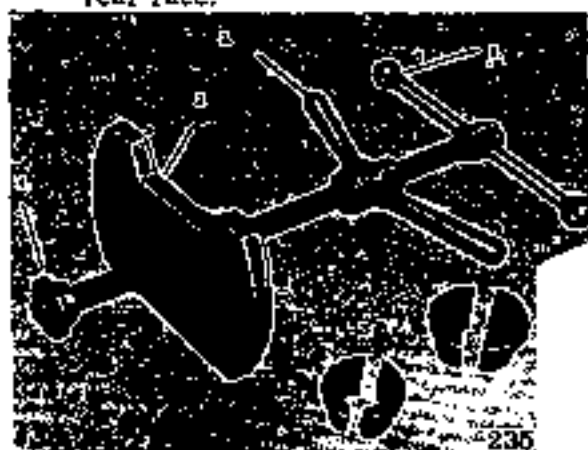

Fig. 7
- 13) To pull out the front bearing outer race from the gear carrier, set the tool body (3) as illustrated in Fig. 7 pull it out with adapter (B) in the way of rear race.